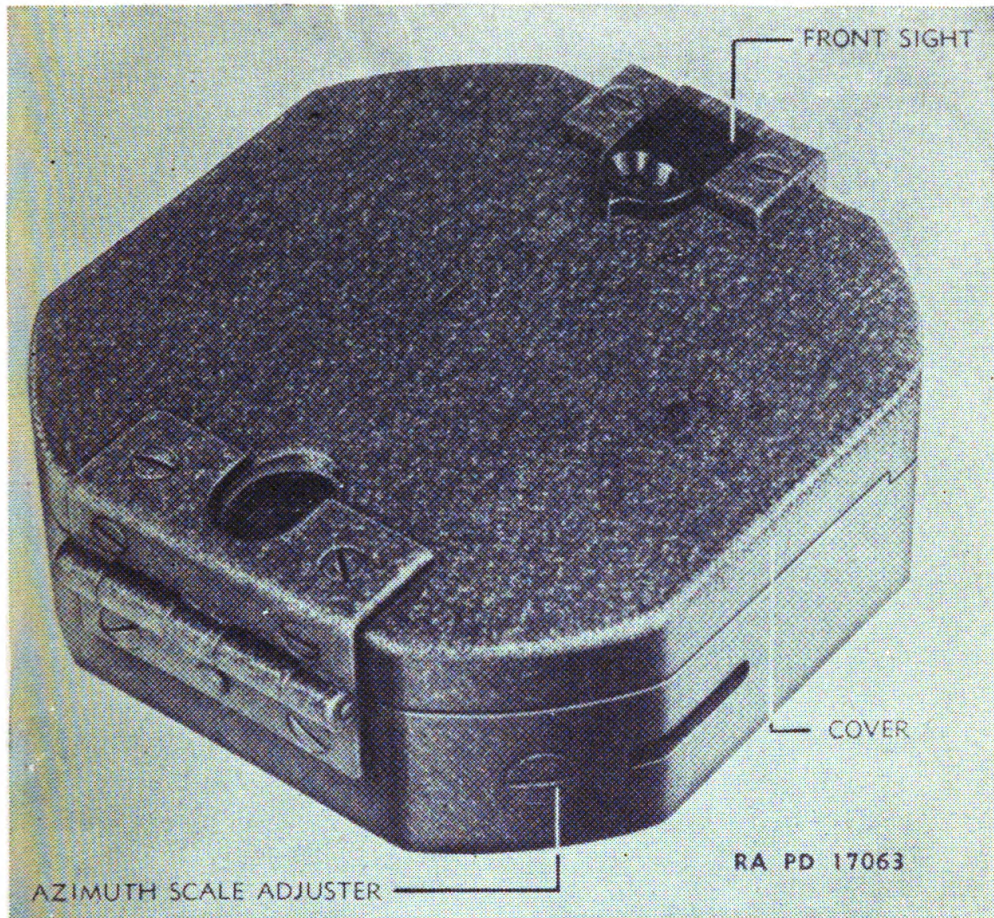

Figure 53 $\frac{1}{2}$ .—Compass M2, cover closed.
*i. Orientation on grid (Y) north.*—(1) The standard reference direction for compass readings is grid (Y) north, corresponding to the grid indications on standard maps. However, due to regional differences in magnetic direction and local disturbances in the magnetic field, the magnetic needle in the compass may point several degrees to either side of the reference direction. The difference between the magnetic direction and the standard reference direction is the declination constant.
(2) Allowance for declination constant can be made in this compass by orienting (shifting) the azimuth scale, using the azimuth scale adjuster (fig. 53 $\frac{1}{5}$ ). The slotted head of the adjuster can be turned with an ordinary screw driver.
(3) To determine the declination constant, open the compass and set zero of the azimuth scale against the fixed index in the body by means of the azimuth scale adjuster. Take compass readings on several points of known azimuth. Compute the difference between the compass reading (mean of three readings) of each of the points and the known grid (Y) azimuth. The mean of these differences is the declination constant of the instrument for the particular locality.
(4) If the azimuth readings are greater than the grid azimuth, subtract the declination constant from the azimuth readings or rotate the